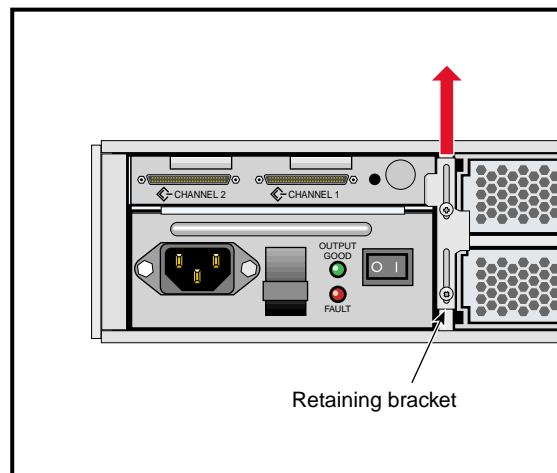

Figure 3-1 Power Supply Module Retaining Bracket
2. Loosen the screws securing the retaining bracket (see Figure 3-1) and slide the bracket upwards, until it is clear of the side of the power supply module.